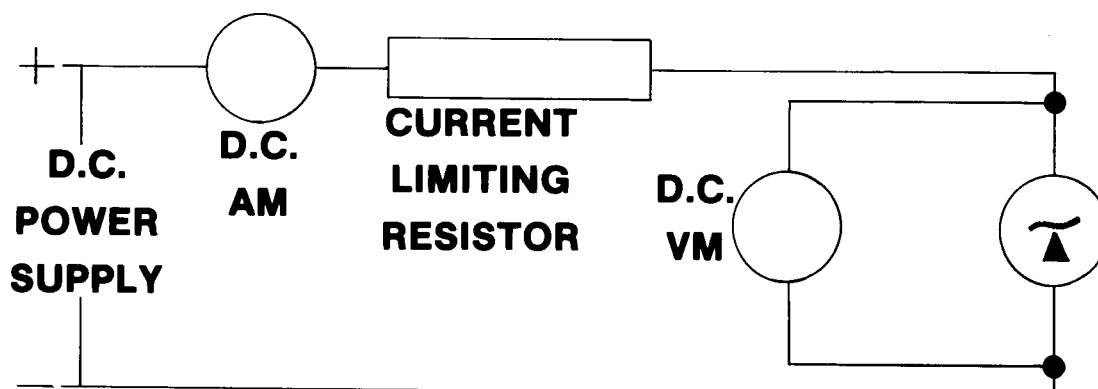

Figure 4-4 Zener Diode Test
G. Zener Diode Test. A zener diode may be checked with an ohmmeter in much the same manner as a silicon diode is checked, or it can be tested using a dc power supply and the test instrumentation illustrated in Figure 4-4. Using test instrumentation connected as shown in Figure 4-4, voltage across the zener diode should stay relatively constant as the dc voltage is increased. Current through the zener diode will increase rapidly. Care should be taken not to exceed the current and voltage rating of the zener diode.